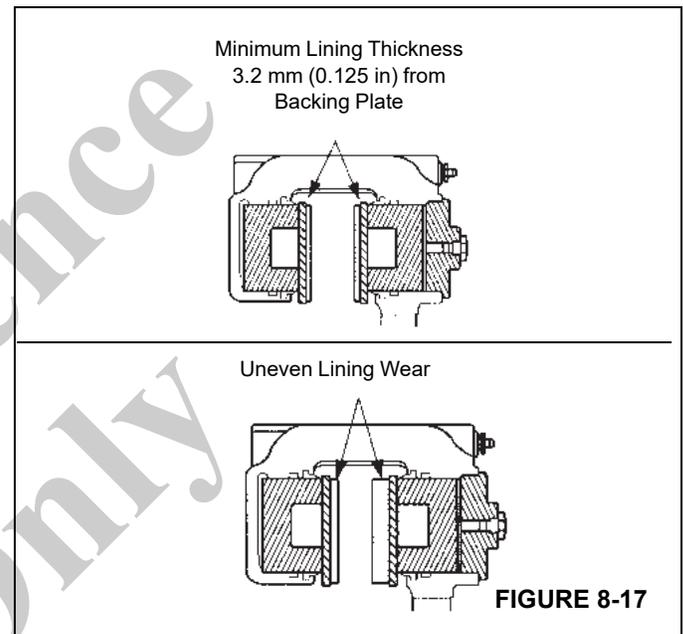

FIGURE 8-17
- Lining Wear: Replace the linings when the thickness of the lining is less than 3.2 mm (0.125 in) from the back plate. Refer to Figure 8-17.
- Lining Wear Not Even: Replace the linings if the thickness of the two linings is significantly different. Check the pistons for correct operation. Replace the piston and/or housing if a piston is cocked in the bore. Check that the disc surface is flat and parallel to the linings. Refer to Figure 8-17.